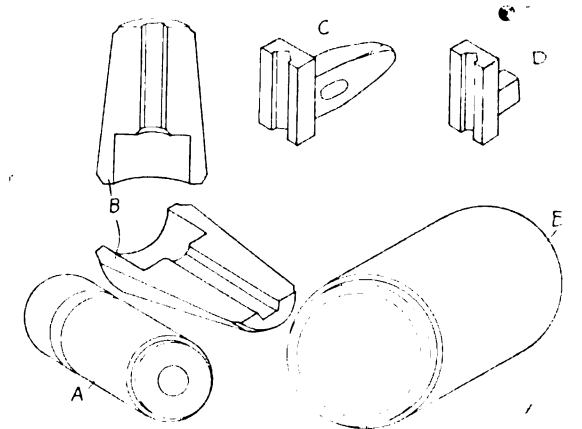

Fig. 5. The Sleeve E Holds the Split Bolster B Together. A is a Plunger. C and D are Shank Dollies.
There is another method of upsetting the rib or collar which does not depend upon having a hardened end with a softened section above it. By this alternative method, the upsetting is done with the aid of special tubes. These are (1) the two halves of a split bolster, (2) the ring to surround the bolster halves, and (3) a hollow plunger. The split bolster is so formed that, when set up with the ring holding the halves together, the drill stock may be passed through it. At the end which is uppermost when in position, the bolster has a cylindrical depression of the proper size to receive the open end of the plunger. Further, connecting the small diameter hole through the bolster and this depression, the interior is so shaped as to permit a circular bulge to be formed when the shank end of the rod is passed through the bolster and the hollow plunger is driven down upon it. Naturally, the end of the rod is heated preparatory to this upsetting operation. See A, B, and E, Fig. 5.